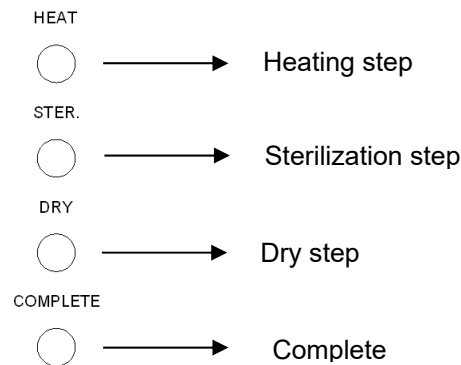

Figure 18
G.4 Press the START Button. The current progress of the sterilization cycle is indicated on the Process Status Indicator. (Figure 18)